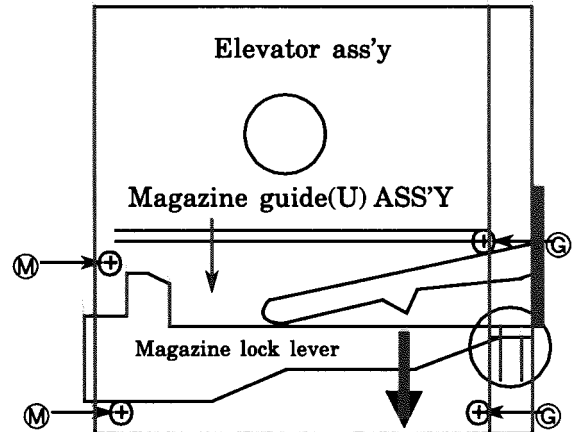

Fig14
- (20) Use "LOCKTITE" #460 bonding agent, and apply as little as possible. Take care not to allow any excess bonding agent to get onto the turntable. Be extremely careful not to allow bonding agent to adhere to the motor bearing (the section marked by an arrow in fig 14 on the right).